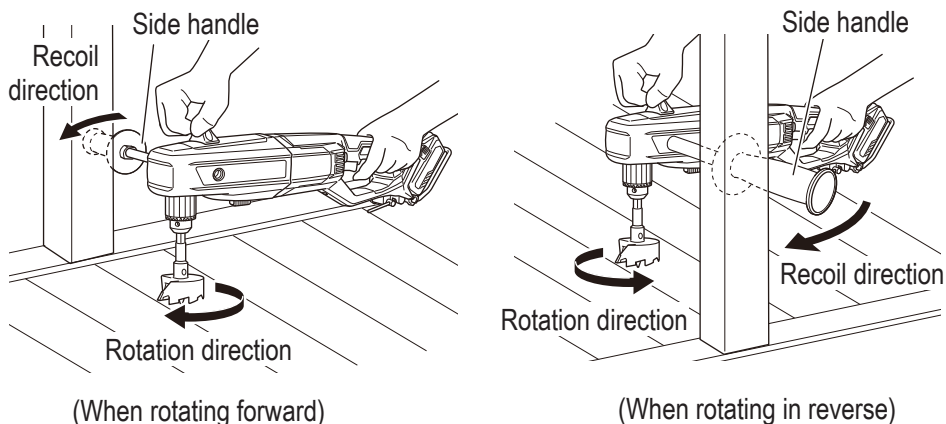

Fig. 17
- Placing the side handle against a pillar, etc. while working can prevent the tool body from jerking out of control. (Fig. 17)